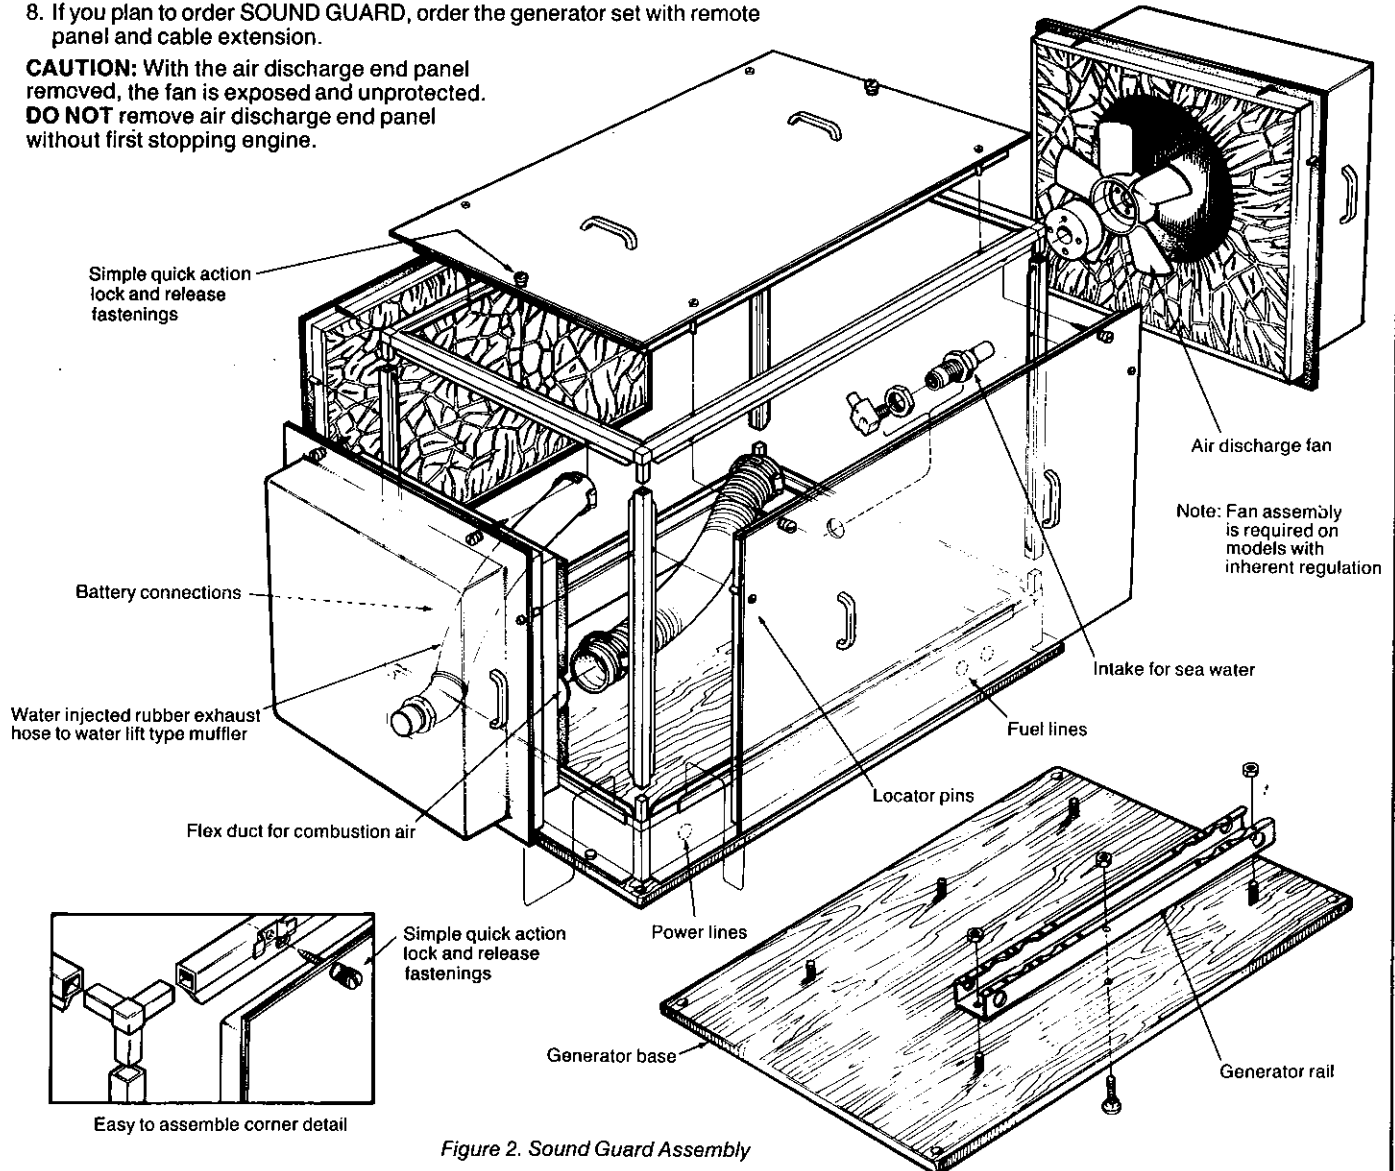

Figure 2. Sound Guard Assembly
Figure 2, below, demonstrates the simple design around which WESTERBEKE Sound Guards are built. They are easily assembled or disassembled in place. All connections (exhaust, water, battery, fuel, instruments) are made through the lower skirts. Thus, all parts of the engine and generator can be reached for service by removing the panels and framework, for which no tools are needed! All sound absorbent lining is mylar faced for cleanliness. This design permits WESTERBEKE to offer Sound Guard for every generator set in its line.
8. With all skirts replaced and all service connections made, assemble the frame components and the panels using Figure 2 as a guide. At this point the front engine pulley screws should clear the front panel foam by 1/16 to 1/8 of an inch. The rear panel foam should press against the intake plenum to make a tight seal preventing recirculation of air. If this joint is open by more than 1/8 inch, add a strip of the 3/4" foam gasketing supplied to rear edges of plenum #34708.